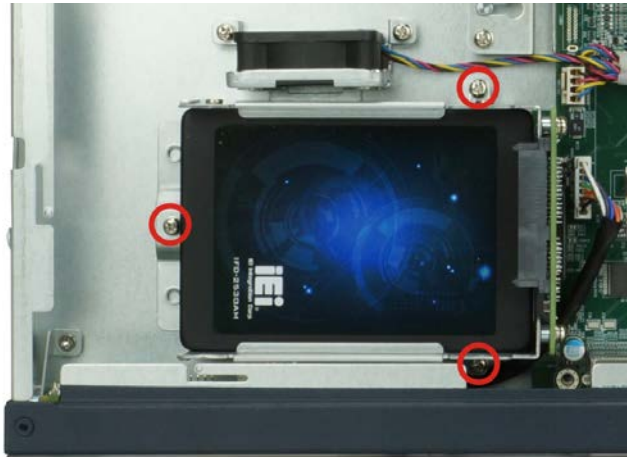

Figure 3-5: HDD Installation
Step 3: Insert an HDD into the bracket until the HDD is properly connected to the SATA connector. Secure the HDD with four retention screws (M3*4). See **Figure 3-5**.
Step 4: Re-connect the SATA connector module to the motherboard. Secure the bracket to the chassis with three screws removed previously (**Figure 3-5**).